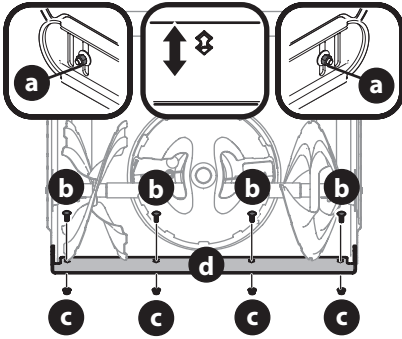

Figure 46
3. Loosen rear skid shoe nuts (a) on both sides of auger housing and remove carriage bolts (b) and hex nuts (c) which attach shave plate (d) to the bottom of the auger housing (Figure 46).
4. Adjust the shave plate to one of 2 mounting positions. Reinstall and securely tighten all carriage bolts, nuts and skid shoe hardware from Step 3 (Figure 46).